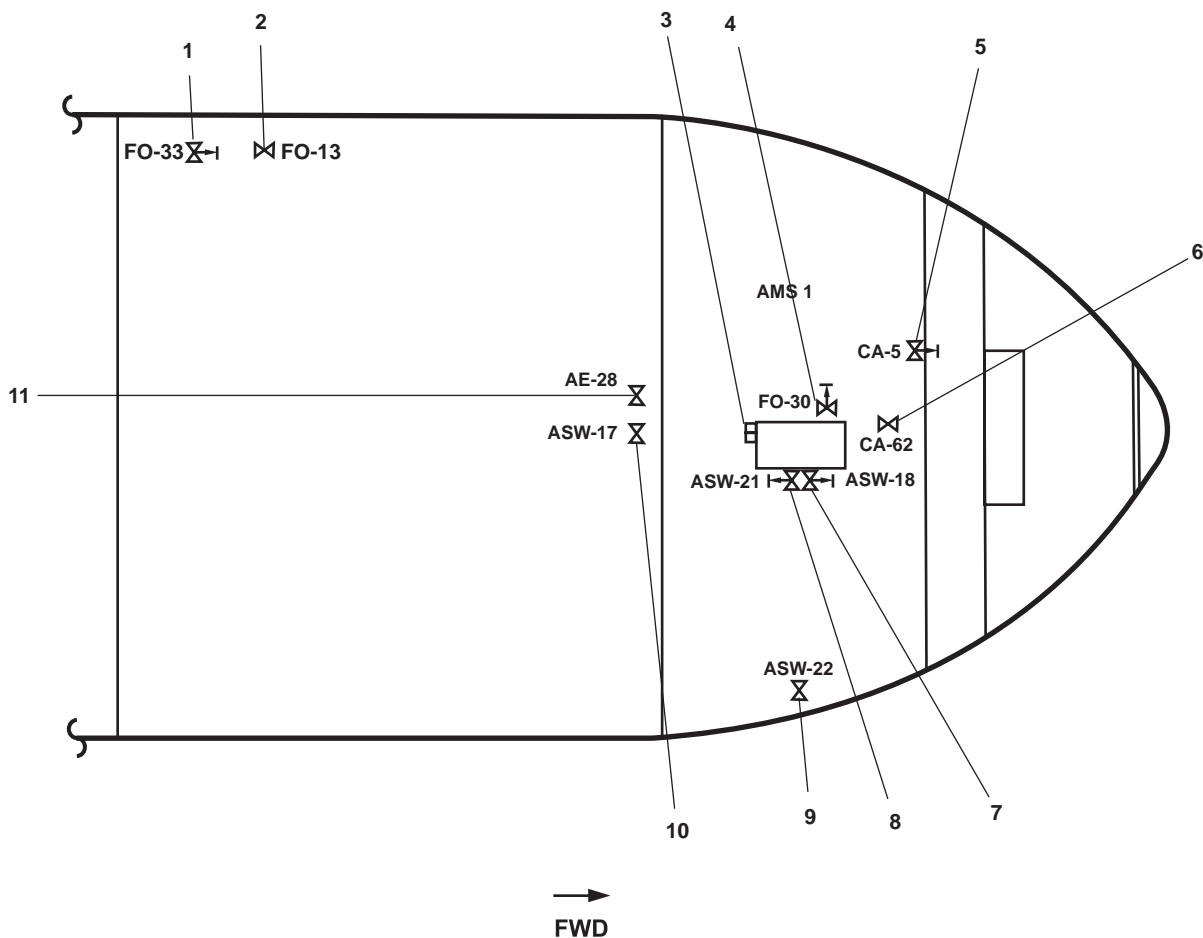

Figure 1. Bow Thruster Valve Locations
- a. FO-33, F.O. RTN TO DAY TK. PORT (figure 1, item 1), located in the engine room aft on the port bulkhead
- b. FO-13, F.O. SERV. SUCT. PORT (figure 1, item 2), (remote operator in the main deck fan room)
- c. Fuel filter/water separator inlet and outlet valves (figure 1, item 3), located on the bow thruster engine
- d. FO-30, F.O. SPLY TO BOW THRUSTER ENG (figure 1, item 4)
- a. CA-5, STG AIR TO BOW THRUSTER ENG (figure 1, item 5), located on the AMS 1 forward bulkhead
- b. CA-62, STARTING AIR GAUGE - COV (figure 1, item 6)
- a. Asw-18, S.W. TO BOW THRUSTER ENG. (figure 1, item 7).
- b. Asw-21, S.W. FR. BOW THRUSTER ENG TO OVB'D DISCHARGE. (figure 1, item 8).
- c. Asw-22, OVB'D DISCH., S.W. COOLING (figure 1, item 9), located in AMS 1 outboard of the pump drive engine on the starboard bulkhead.
- d. Asw-17, SEA SUCTION S.W. COOLING (figure 1, item 10), located in the engine room below the EOS.
- e. AE-28, SEACHEST VENT (figure 1, item 11), located in the engine room below the EOS.